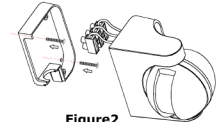

Figure2
- Fix the bottom with inflated screw on the selected position. (refer to figure 2)